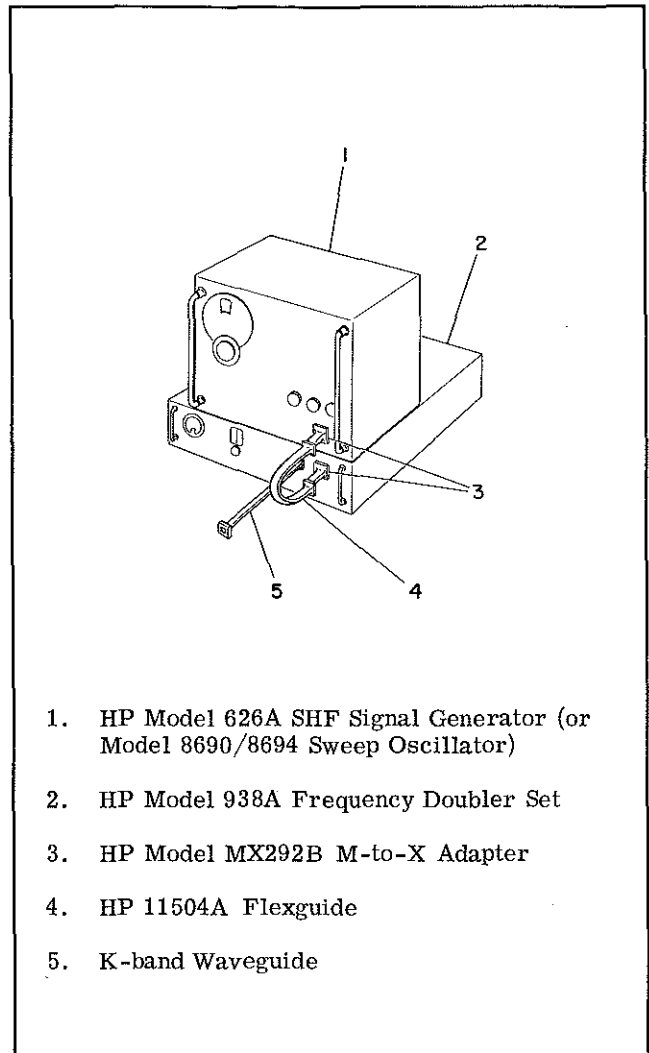

Figure 2. Using HP Model 938A Frequency Doubler Set to Obtain Modulated K-Band Signals
7. SIGNAL SOURCE. For reflectometer measurement systems, the RF signal must be square-wave modulated with 1 kHz. An economical source of modulated signals in K or R band is obtained by using a broadband frequency doubler driven by a RF source with built-in provision for 1 kHz square-wave modulation. Figure 2 shows such a combination for K band, and Table 2 lists equipment required to obtain K- or R-band signals with HP Models 938A and 940A Frequency Doubler Sets.*